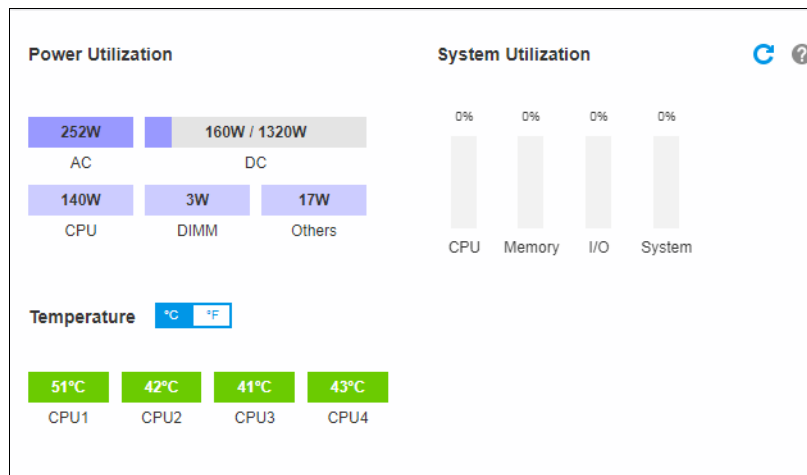

Figure 4-5 Power utilization
2. You can view a quick overview of the system utilization for the CPU, memory, I/O and system, and power utilization for each CPU and all DIMMs from the XCC home page as seen in Figure 4-5.